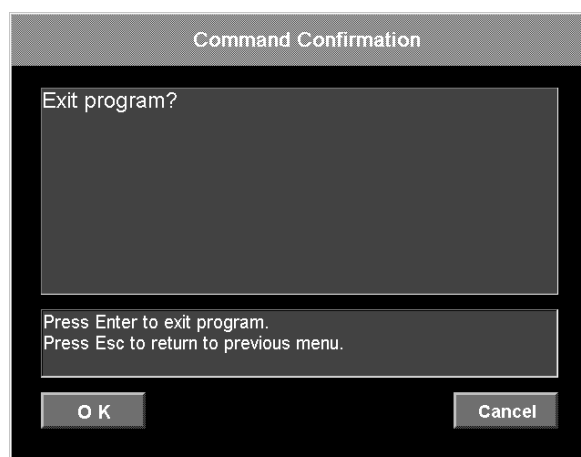

Fig. 129
2. Click the **OK** button or press the Enter key on your keyboard to exit the program. To cancel exiting the program, click the **Cancel** button or press the Esc key on your keyboard. (Fig. 129)